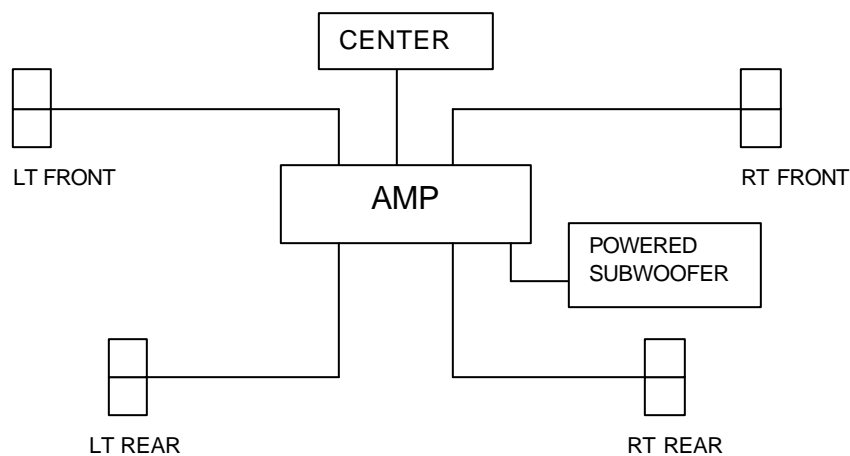

Figure 3
- An amplifier with a subwoofer output connection, usually a RCA type connector would be the preferred connection when used with the MNCS subwoofer (see figure 3). A shielded audio cable is required for this setup with a Y-adaptor connecting the audio cable to left and right "LINE INPUT" on the subwoofer.